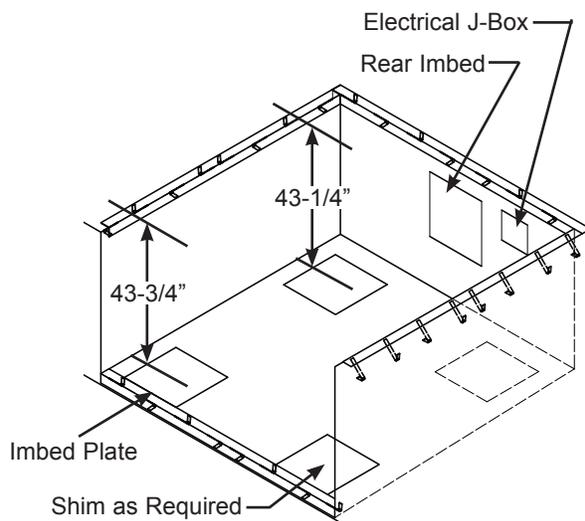
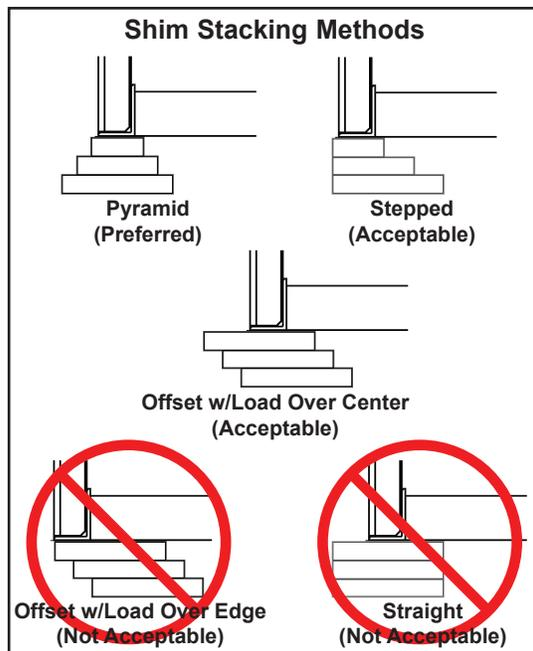

Figure 14
Figure 15
3. Check the pit dimensions with the certified pit drawing included with the equipment. Make sure that the walls of the pit are plumb and square with no bulges. Check dock height, location of imbed plates, and J-box. See Figure 14 for example KS6 pit.
1. Place the shims for the front and rear of the leveler on the imbed plates in the pit floor. Position the shims so that the legs will rest firmly on the shims when the unit is lowered into the pit. Dimension from top of shims to dock floor should be as shown in Figure 14. Stack shims as shown in Figure 15.